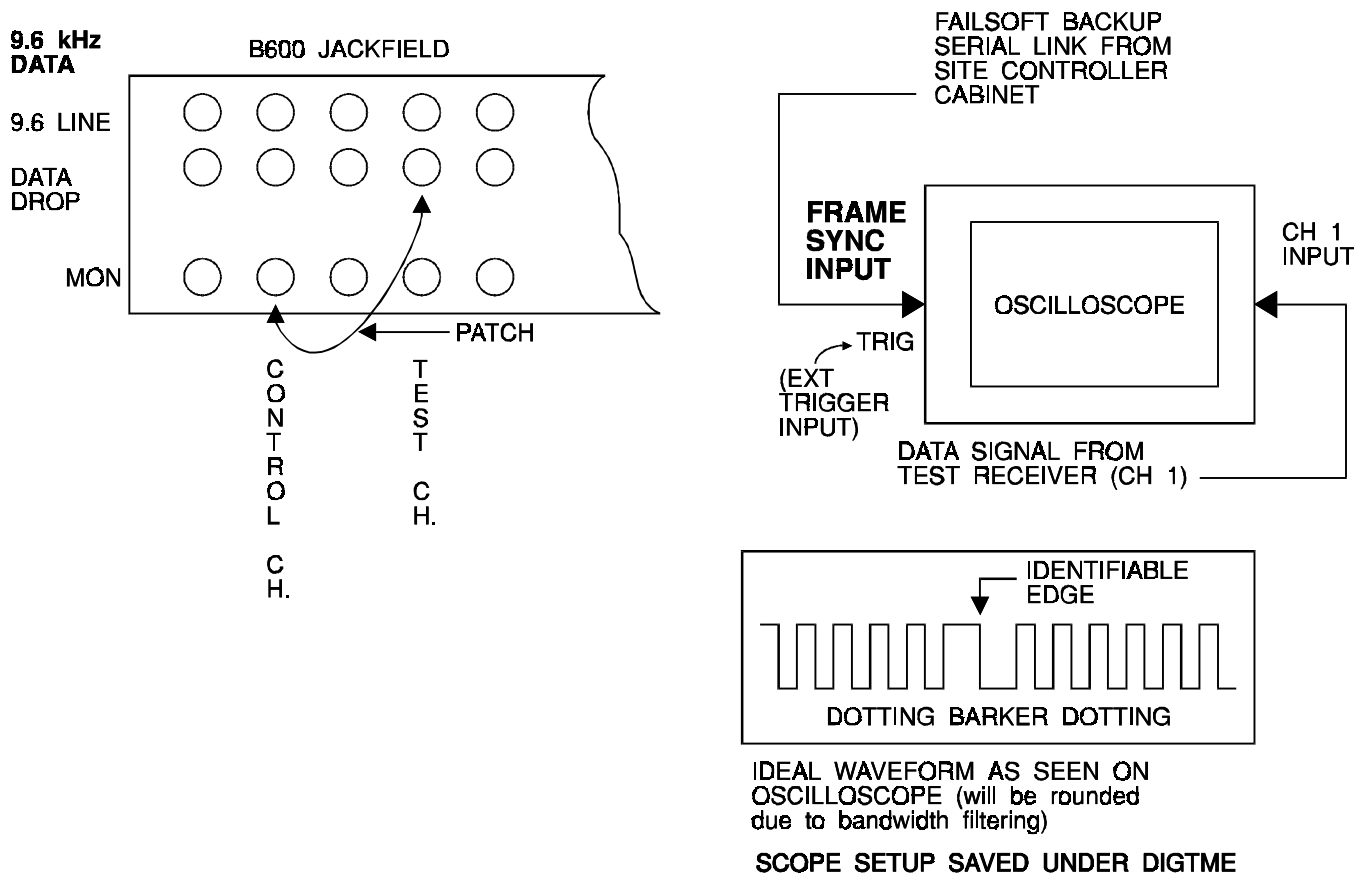

Figure 3 - Digital Delay Adjustment
2. With the test delay at zero (0), use delayed sweep on the oscilloscope to display the "**dotting/barker**" region of the Control Channel data (External trigger on FSL, discriminator output of the Test Radio set to the proper RF channel). On the test panel only the site under test should have PTT (See Figure 3 for "**dotting/barker**" region and oscilloscope connections. The scope setup may be stored under "DIGTME").
4. Add one (1) millisecond of delay on the test delay; the edge will reappear after the modem retrains at some random point. Wait for Resync. The reference edge should come back to the first cursor.
Perform the steps in the order presented. Refer to the Figure 3 and Delay Unit Shelf Assembly Maintenance Manual LBI-38941.
1. Connect the test equipment as shown in Figure 3. Patch data from Control Channel to the Test Channel.